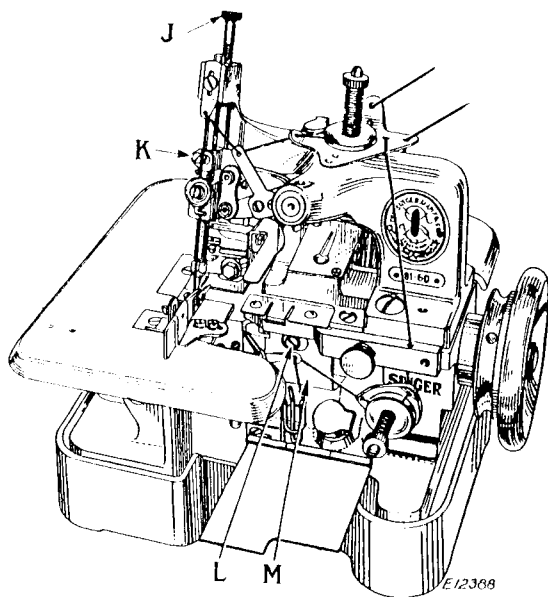

Fig. 10. Adjustments on the Machine
The pressure on the material is regulated by means of the thumb screw (J, Fig. 10). To increase the pressure, turn this thumb screw downwardly. To decrease the pressure, turn the thumb screw upwardly.
The length of stitch is regulated by means of the adjusting screw (L, Fig. 10) in the feed eccentric. This screw faces directly outward.
To change the length of stitch, turn the balance wheel until the lock screw in the feed eccentric appears in the hole of the cover (M, Fig. 10). This screw faces slightly downward. Loosen the lock screw. Then turn the balance wheel until the adjusting screw (L) is visible through the hole in the cover (M). Turn the adjusting screw (L) over to the right for a long stitch. Turn this screw over to the left for a short stitch. Then turn the balance wheel over until the lock screw appears and securely tighten this screw.
Now turn the balance wheel over from you until the needle bar has risen $\frac{3}{32}$ inch from its lowest position. The point of the left hand looper, on its loop taking stroke, should then be at the center of the needle, and the eye of the needle should be about $\frac{1}{16}$ inch below the looper point. If the needle bar is not at the correct height, loosen the pinch screw (K, Fig. 10) and move the needle bar upward or downward as required, then securely tighten the pinch screw (K).